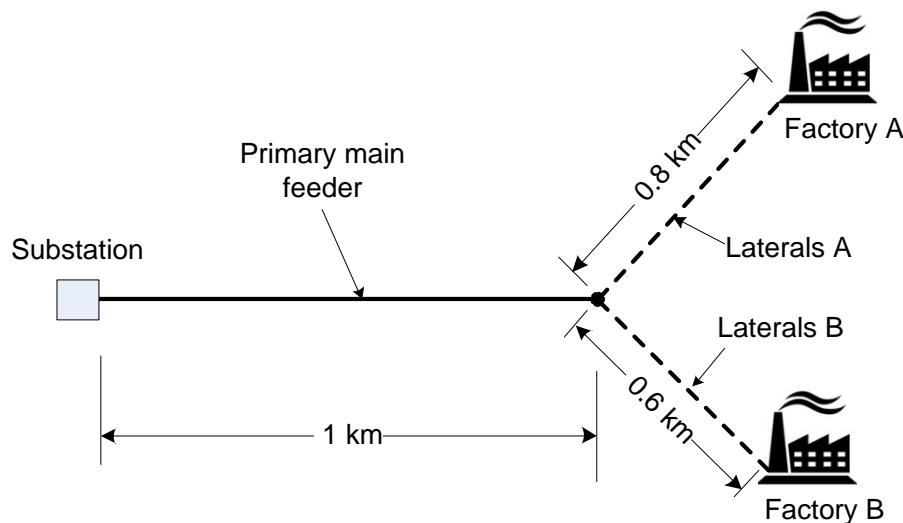

Figure 5.1
5. (a) A distribution system is to be designed to supply power to two factories as shown in Figure 5.1. The feeders are supplied by a substation with  $V_{LL}=4.16$  kV. Factory A has a maximum load of 600 kVA while factory B's maximum load is 900 kVA.